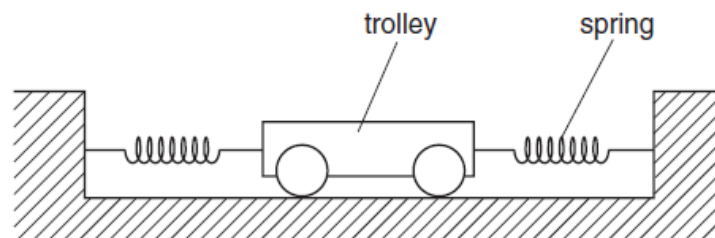

Fig. 5.2
- (c) A trolley of mass 850 g is held between two fixed points by means of identical springs, as shown in Fig. 5.2.